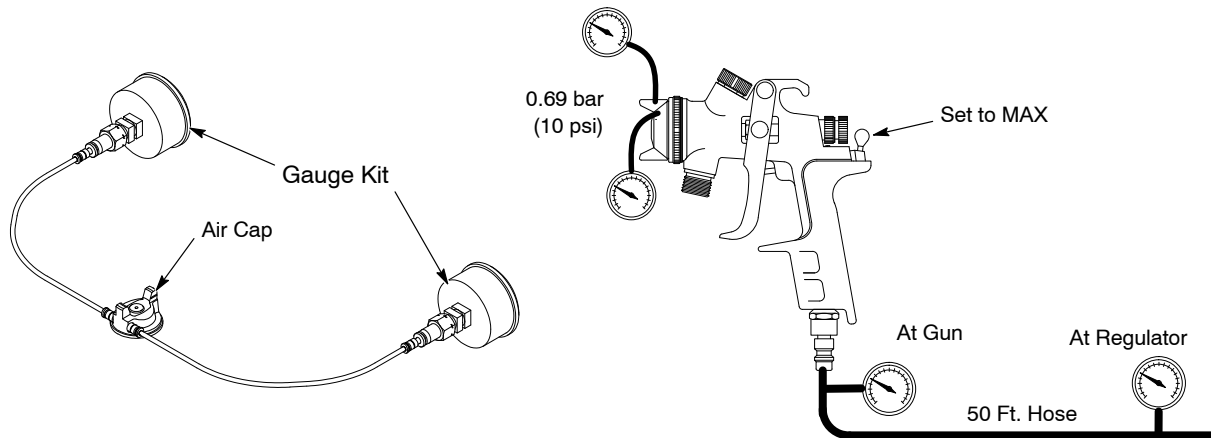

Figure 3 Compliance Air Cap and Gauge Kit Installation and Use
See Figure 3. The trigger pin (18), valve pin (12B), and paint needle (6) should be lubricated with silicone-free oil daily.
These troubleshooting procedures cover only the most common problems. If you cannot solve a problem with the information given here, contact your local Nordson representative for help. See Figure 3 for parts information.
See Figure 3 for all repair procedures.